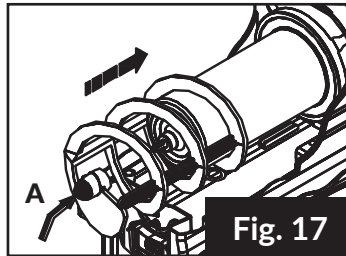

Fig. 17
4. Insert the Spiral Blade so that the head joins the transmission shaft. (Fig. 17)
5. Lubricate the external part of the head of the Spiral Blade (A). (Fig. 17)